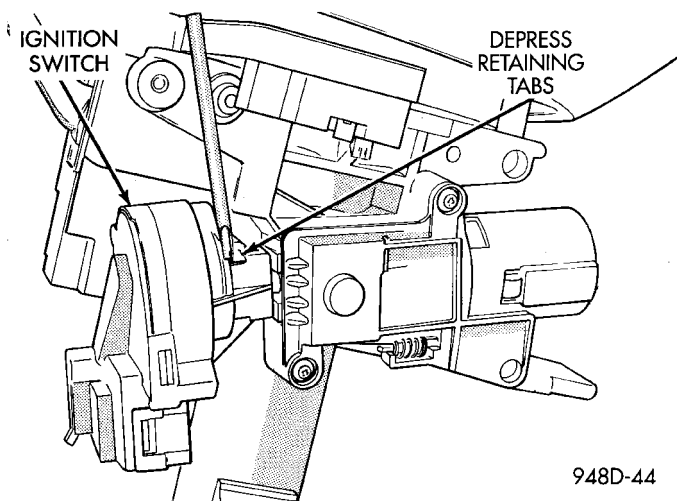

Fig. 43 Removing Ignition Switch
(6) Depress retaining tabs (Fig. 43) and pull ignition switch from steering column.